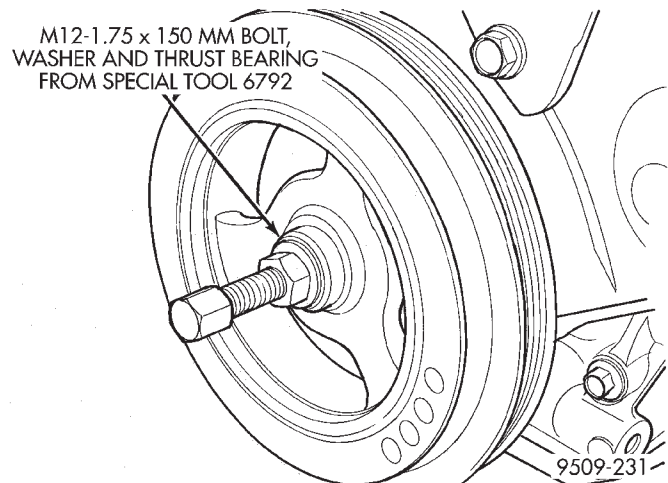

Fig. 70 Crankshaft Damper—Installation
- (4) Install timing belt and covers. Refer to Timing Belt System in this section for installation.
- (5) Install crankshaft damper (Fig. 70). Use thrust bearing/washer and 12M-1.75 x 150 mm bolt from